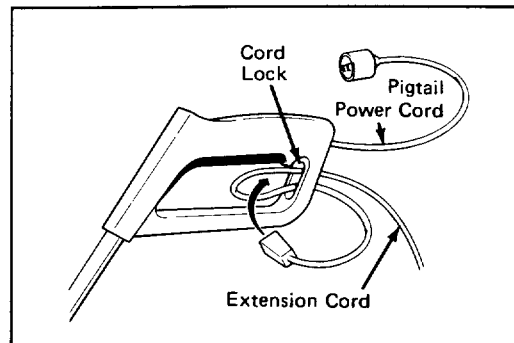

Figure 9
**Note:** When in doubt about what size cord to use, choose the next heavier gage. The smaller the gage number, the heavier the cord. An undersized cord causes a drop in line voltage which results in a loss of power and overheating. See Figures 9 & 10 for proper cord connection.
1. Secure the pigtail power cord and a suitable extension cord to trimmer with cord lock as shown in Figures 9 & 10.